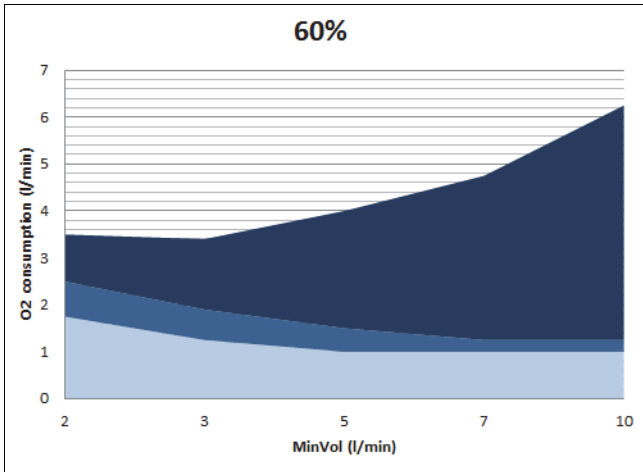

Figure 2-22. Oxygen consumption as a function of minute volume, oxygen set to 60%
2. The * 2 is to account for compressible volume in the breathing circuit. For details, see Figures 2-22 and 2-23 on pages 2-46 and 2-47.
1. The * 2 is to account for compressible volume in the breathing circuit. For details, see Figures 2-22 and 2-23 on pages 2-46 and 2-47.
- Figure 2-22 shows the values for Oxygen set to **60%**.